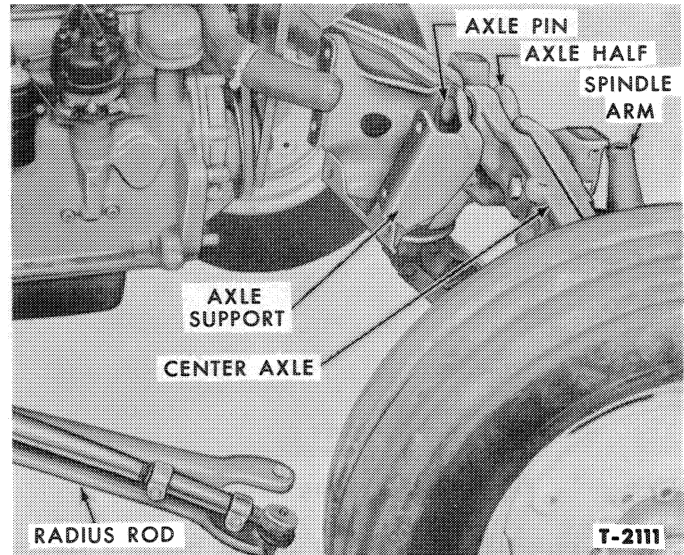

Figure 6—Removing Axle Assembly
6. Remove the four nuts and lock washers securing the front support to the engine and roll the axle and support away from the tractor, as shown in Figure 6.